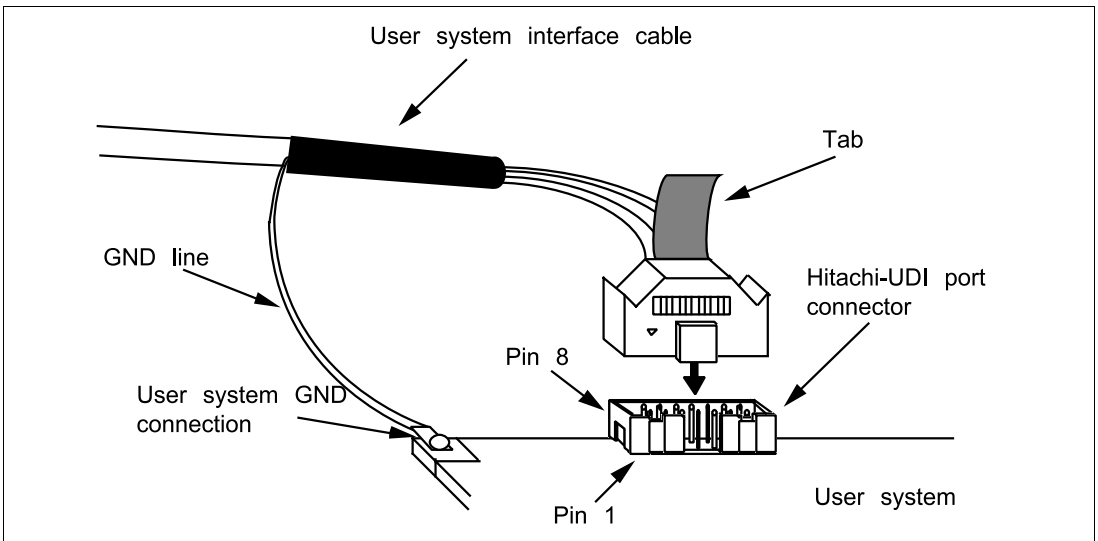

Figure 2.4 Connecting the User System Interface Cable to the User System
- (2) The pin arrangement of the connector is shown in section 6.2, Pin Arrangement of the Hitachi-UDI Port Connector.
- (3) Figure 2.4 shows how to connect the user system interface cable to the user system. Connect the ground line of the cable to the user system ground. The end of the ground line has a hole having a diameter of 3 mm, and therefore, when the ground line is screwed to the user system, the screw diameter must be 3 mm.